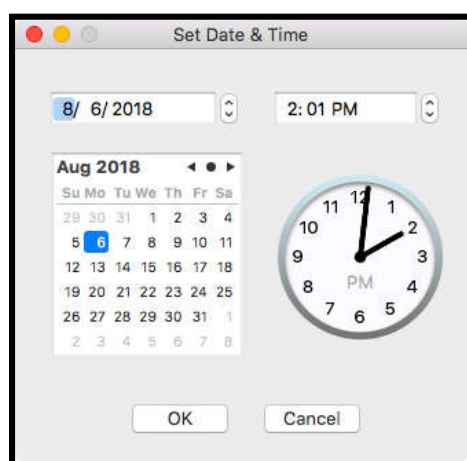

Figure 32
- The following dialogue box will appear (Figure 32):